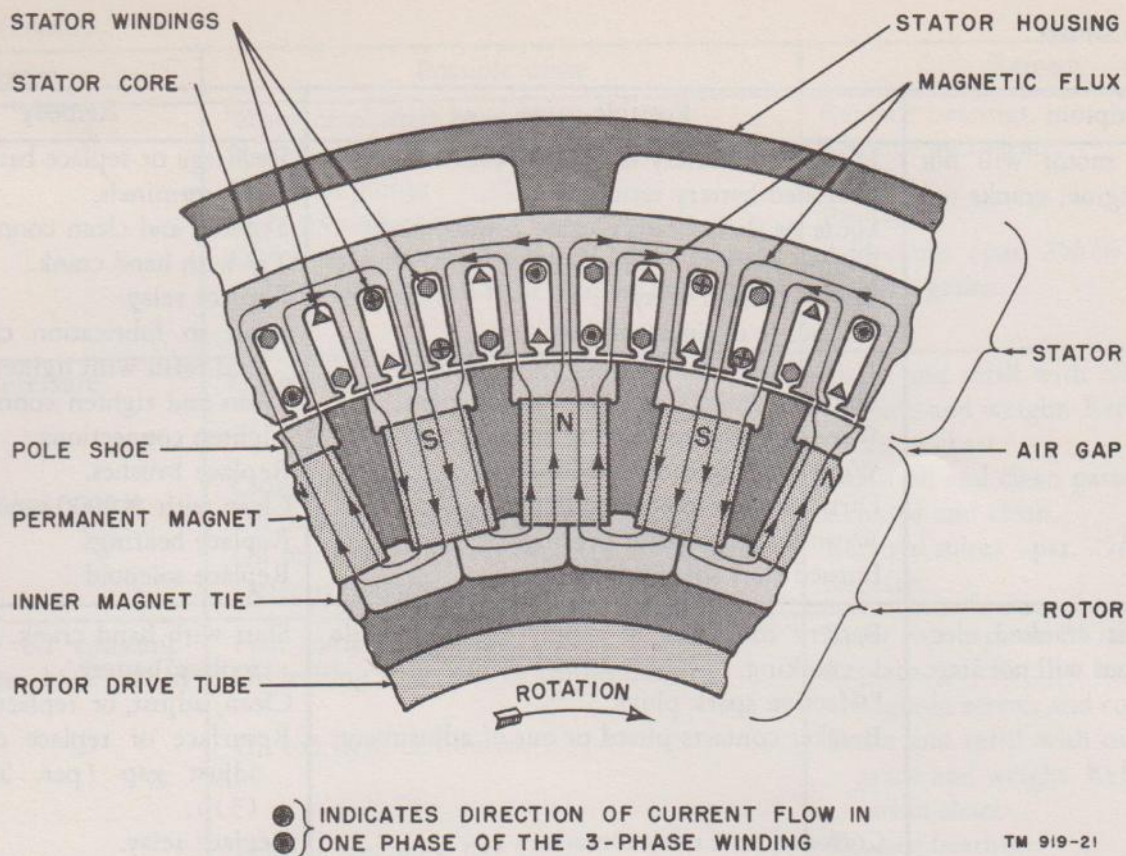

Figure 21. Alternator theory.
i. ALTERNATOR. Generator set PU-107/U is equipped with an alternator directly coupled to the engine flywheel and supported at the outboard end by a ball bearing. The alternator is of the rotating permanent-magnet-field type with 28 poles, resulting in a frequency of 400 cycles per second with an engine speed of 1,714 rpm. The alternator is rated at 12.5 kw and generates 120 or 208 volts, depending on the connection used. The specific feature of the permanent-magnet alternator is that it has no field windings; therefore it requires no external excitation. This feature eliminates the conventional commutator, slip rings, and brushes. The rotor constitutes a cage structure of nonmagnetic stainless steel disks with rivets holding the magnets, laminated pole tips, and inner magnetic tie laminations accurately in place around the drive hub. The entire mass is centrifugally cast with aluminum alloy. The aluminum body fills all voids, making the entire assembly a rigid and solid metal unit. It gives ideal damping action as it forms low-resistance circuits around each pole and through openings in the pole tips. Fan blades are formed with the aluminum casting and give all the necessary cooling. The rotor is magnetized with the poles having alternate north and south polarity around the circumference. The magnetic flux (fig. 21) leaves each north pole of the rotating field, passes through the iron core of the stator, and then returns to the adjacent south poles of the rotating field. The rotor with its magnetic field sweeps across the stator windings. There are three separate coils wound on the stator, 120 electrical degrees apart. As the lines of flux cut the stator conductors, voltages are induced in each separate stator winding, producing three-phase alternating voltage. The inherent voltage regulation varies from very close regulation for unity power factor loads to very